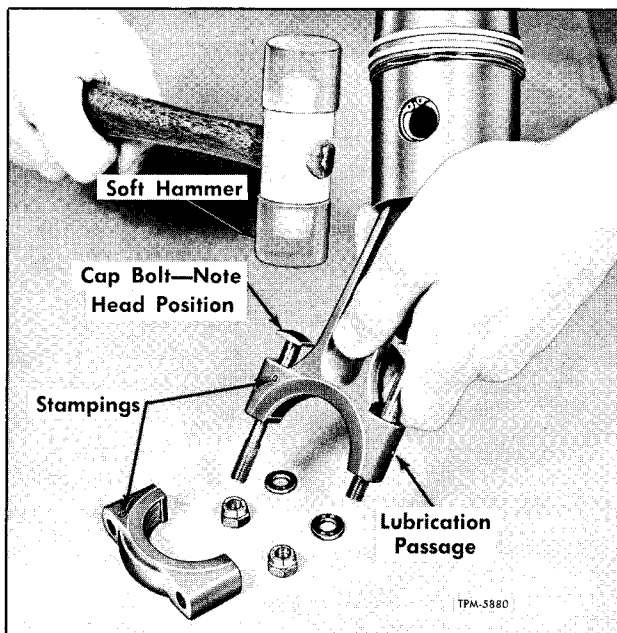
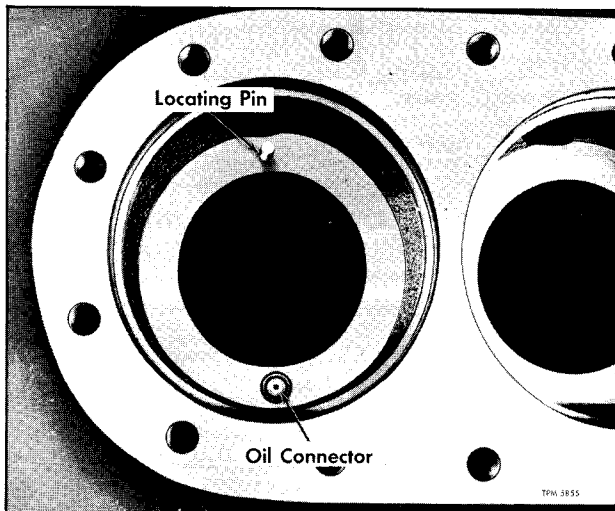

Figure 81—Installing Connecting Rod Cap Bolt
Figure 87—Alignment Pin and Oil Connector Installed
3. Inasmuch as connecting rod bolts (10) are a tight fit in connecting rod, they must be driven into place with a light weight soft hammer (fig. 81). Be sure that flat side of bolt head is positioned to mate with shank on rod.
NOTE: The installation of cylinder liner with unloader is the same as the installation of the plain liner less unloader as far as entry of piston and rings are concerned. The main difference, however, is in the proper positioning of unloader in the compressor housing. The unloader cylinder housing is fitted with a roll-pin and an oil connector as shown in figure 87. The inside of unloader has two holes which must coincide with roll pin and oil connector.
4. In housing bore where a liner having unloader mechanism is to be installed, insert oil connector (31), with two new O-ring seals (30) in each end of connector, into lower hole (fig. 87). Before installing connector apply clean compressor oil to O-ring seals.
6. Rotate the liner with reference to connecting rod so that side of rod with match marks (see figure 81 for match mark locations) are facing the seal end of compressor and the alignment pin and oil connector holes (fig. 87) are properly aligned for entry into housing liner bore.
7. All connecting rods have corresponding match marks (fig. 81) which identify the rod and cap as being matched. **IMPORTANT:** These two matched parts must be assembled so that they are on the same side of rod and when assembling the rod to crankshaft, the marks must always be positioned facing the seal end of compressor.